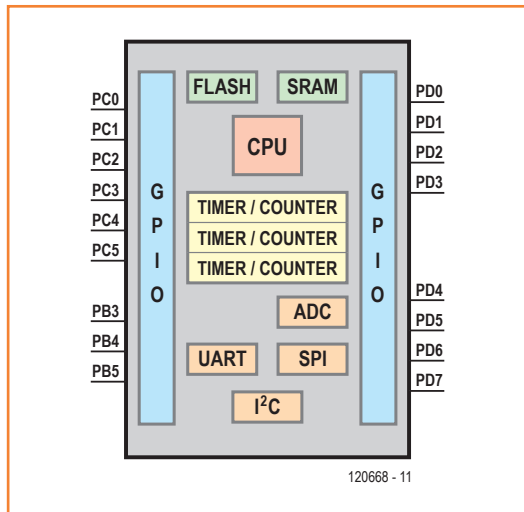
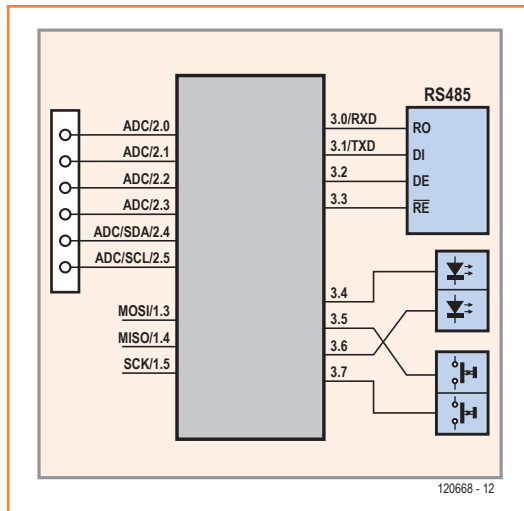
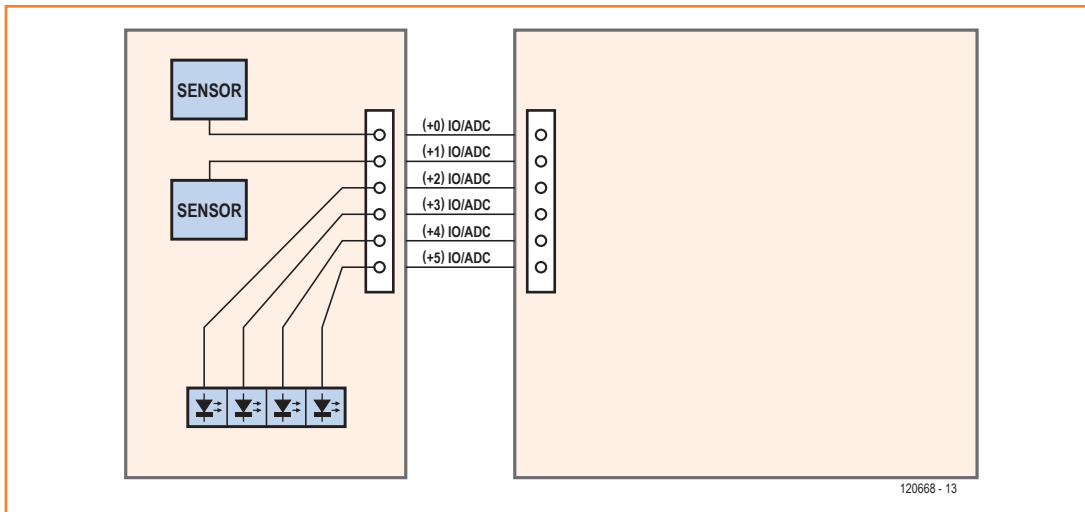

Figure 3. A greatly simplified block diagram of a typical microcontroller (ATmega328).
Figure 4. The board code developer can treat the microcontroller as a 'black box': only its port pin connections need to be known.
Figure 5.
The same goes in the other direction, from the highest level of the library to the lowest: the developer of an application should not need to be concerned with the details of how the code works at the next level down. Likewise the microcontroller board code developer should just need the circuit diagram of the board and a description of the microcontroller's port pins and their functions, and should not need to worry about the innards of the microcontroller itself (Figure 3), treating it instead as a 'black box' (Figure 4). The designer of an extension board should similarly only be concerned with the pinout of the expansion connector via which it communicates with the microcontroller board; and not have to worry about which signals are connected to which pins on the microcontroller (Figure 5).
The first byte of the Portpin parameter denotes the port (or group of I/O pins): in the case of an AVR microcontroller zero corresponds to port A, one to port B and so on. This lets the function work out which registers will be affected by the call. The second byte of the parameter specifies the pin within the port: on a typical eight-bit microcontroller this would be a value from zero to seven inclusive. The port pins can be labeled '0.0', '0.1', ..., '1.0', '1.1' and so on in the circuit diagram (see Figure 4).
For example, board pins (0) and (1) are assigned to the LED block in Figure 4; board pins (2) and (3) are assigned to the button block; and board pins (4) to (9) are assigned to the expansion connector.